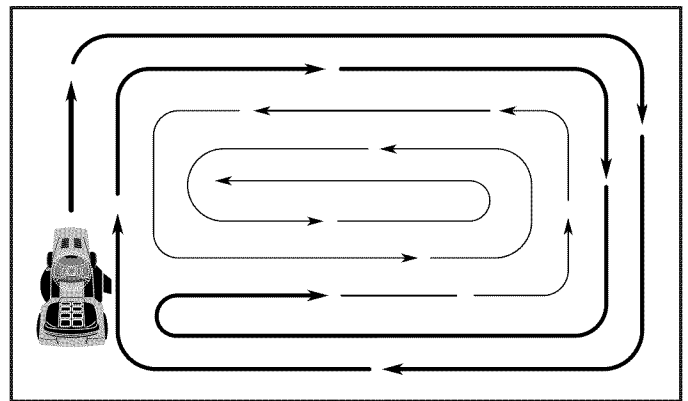

Fig. 23
- When mowing large areas, start by turning to the right so that clippings will discharge away from shrubs, fences, driveways, etc. After one or two rounds, mow in the opposite direction making left hand turns until finished (See Fig. 23).